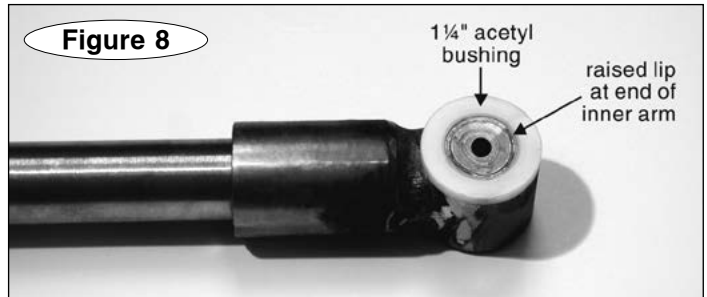

Figure 8
14. Discard the original 1¼" acetyl inner arm bushing (Figure 8) and fit one of the replacement 1¼" acetyl bushings onto the raised lip at the end of the inner arm (Figure 8). Then, test the fit – slide the inner arm into the outer arm.